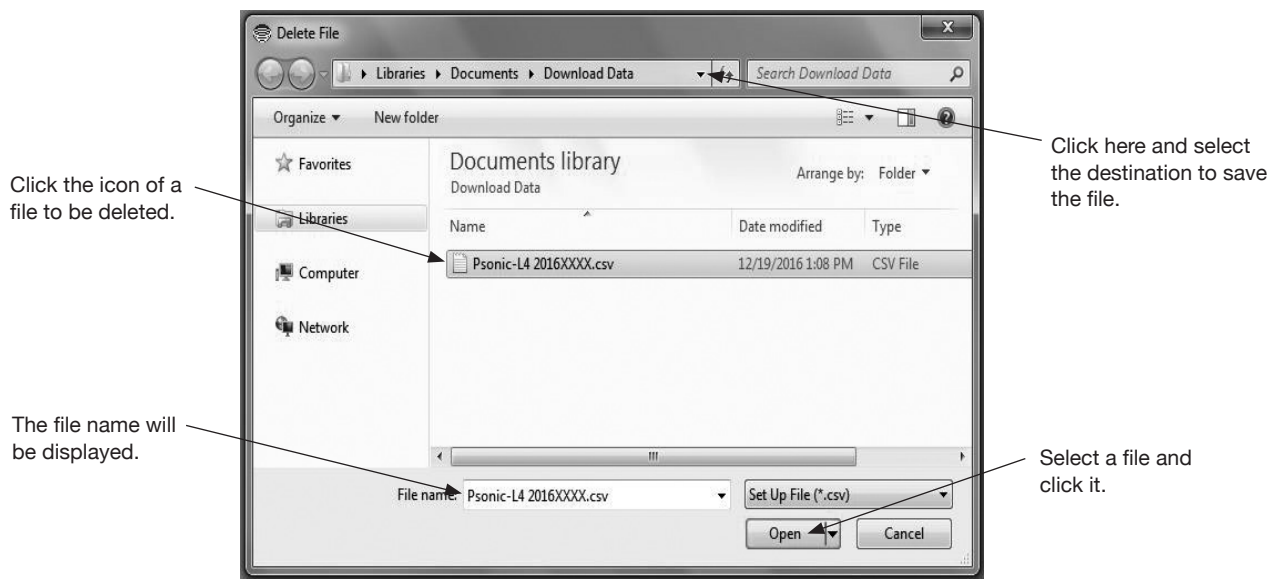

Fig. 3-87
- (1) Click "File (F)" from the menu, and then click on "Delete File (X)" from the drop-down list of "Database (F)".
- (2) The common dialog box (Fig. 3-87) will be displayed. Select the drive and folder where the file to be deleted is stored from the drop-down list.
- (3) Click and select the file to be deleted. Verify "File name (N)" and click "Open (O)" button. Click "Cancel" button to exit the operation without deleting the file.